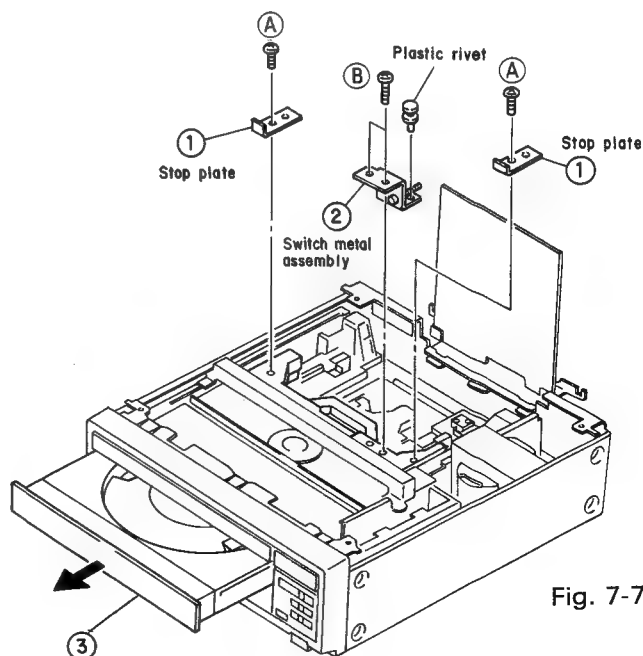
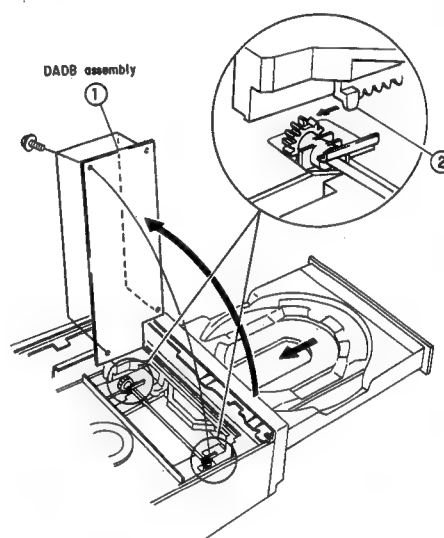

Fig. 7-7
Fig. 7-10
7.4 HOW TO REMOVE THE DISC TABLE (Fig. 7-7)
7.7 HOW TO INSTALL THE DISC TABLE (Fig. 7-10)
- ① Remove the four screws (A) of the DADB assembly to lift up the DADB assembly.
- ② Match the non-toothed section of the inside gear with the notch of the disc table gear to engage them, and insert the disc table.
- ③ Mount the metal switch assembly and the two stop plates which were removed in Fig. 7-7.
- ④ Install the DADB assembly which was removed in step ①.